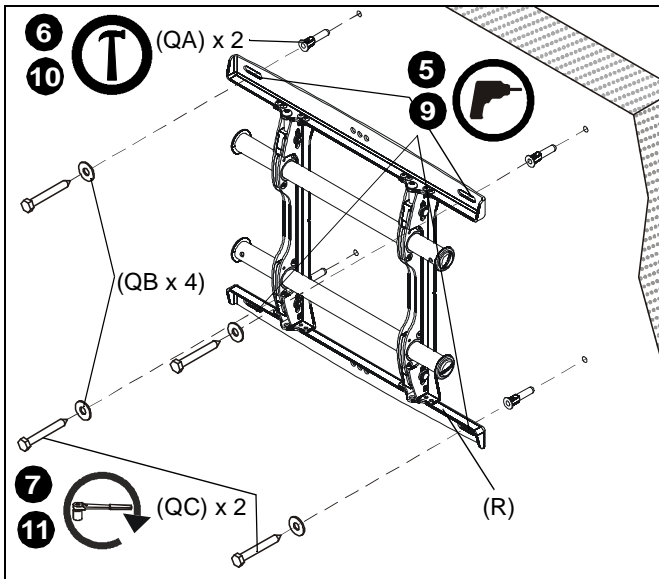

Figure 8
- Line up the notches on mount (R) with center of screen marking to determine vertical center. (See Figure 8)
- Measure up 7-1/2" (190.5mm) from the center point to mark location of the upper mounting slots. (See Figure 8)
- Using a level, mark the wall through both upper mounting slots. (See Figure 8)
5. Drill one 5/16" pilot hole at each marking. (See Figure 8)
6. Install an anchor (QA) into each pilot hole using a hammer. (See Figure 8)
7. Use two 5/16 x 2-1/2" lag bolts (QC) and two 5/16" flat washers (QB) to attach top of mount to anchors in wall. (See Figure 8)
8. Mark the attachment points for the lower mounting slots. (See Figure 8)
9. Drill one pilot hole at each marking for lower mounting holes. (See Figure 8)
10. Install an anchor (QA) into each pilot hole using a hammer. (See Figure 8)
11. Use two 5/16 x 2-1/2" lag bolts (QC) and two 5/16" flat washers (QB) to attach the mount to the wall through the lower mounting holes. (See Figure 8)